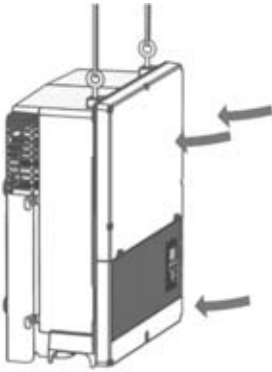
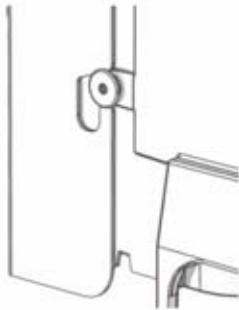

Figure 2.13 Sliding the screws into the slots
Figure 2.14 Detail of sliding into slot
3. Push the inverter as shown so the side screws slide into the two lower slots and the two upper slots. See figure 2.13 and figure 2.14